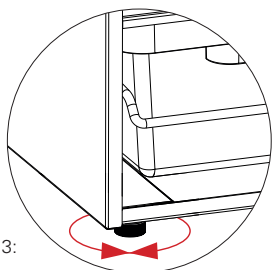

Fig. 3:
- Pull down the Clamping lever (38) to lower the dirt container (31), check if the container is empty and there are no accessories in it.
- Place the suction unit on a level surface. If necessary, an alignment is possible by adjusting the height of the threaded feet up to max. 8mm. see Fig. 3